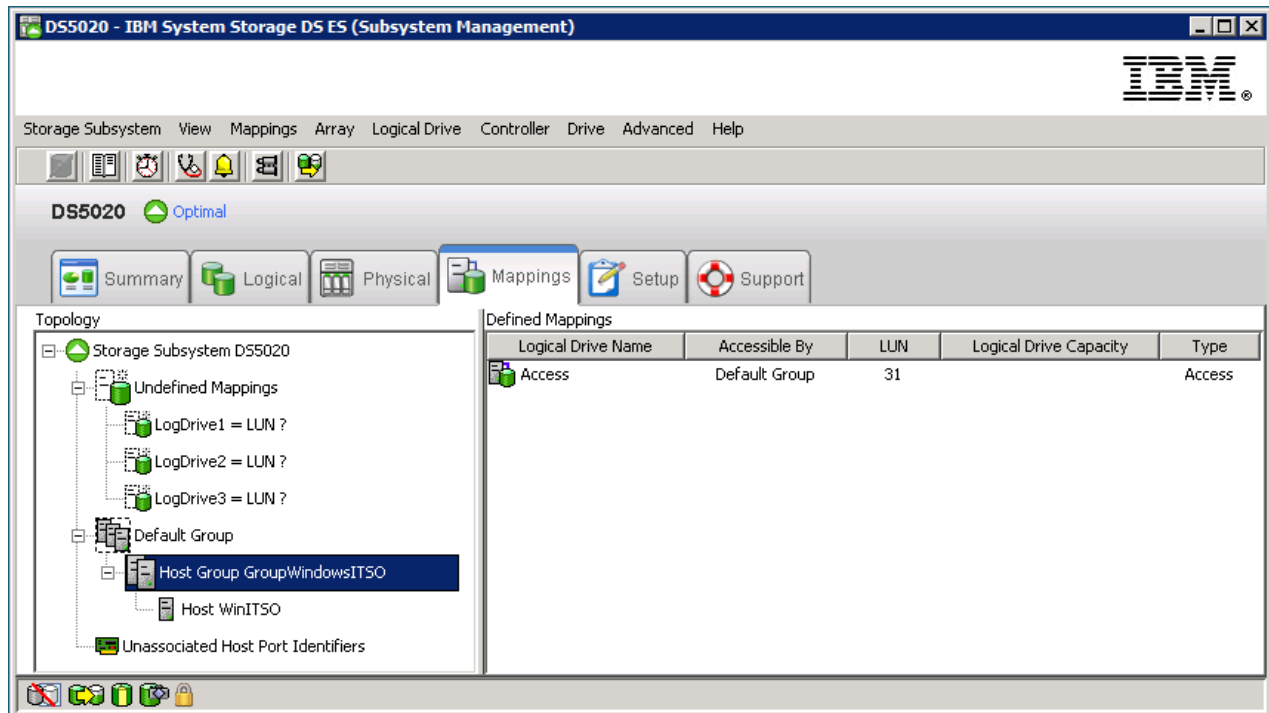

Figure 3-74 New host and host group placed in the default group
10. Repeat the same steps to create more hosts and host groups. Once finished, the new host (and the host group, if it was also defined) is placed in the default group. It will stay there until you actually create a storage partition by assigning the logical drives to that host (or group). Figure 3-74 shows an example.